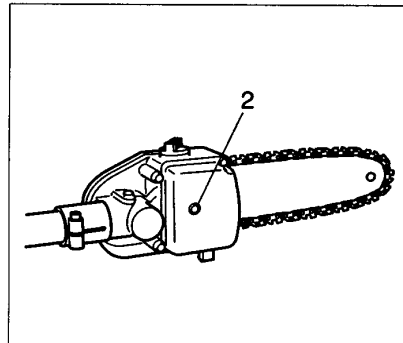
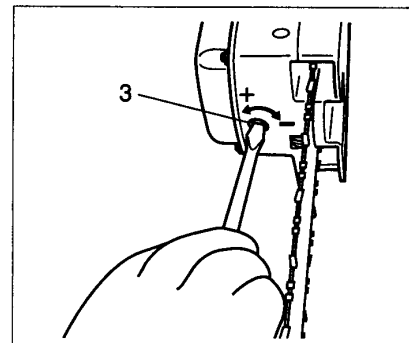

Fig. 2-3
Fig. 2-4
- Loosen the fixing screw (2) one turn. (Fig. 2-3)
- Turn the adjusting screw (3) clockwise to decrease the quantity and turn it counterclockwise to increase the quantity. (Fig. 2-4)
- Do not try to turn the screw (3) clockwise beyond 1 turn from its most counterclockwise position or the maximum quantity discharged position.
- After adjustments have been made, tighten fixing screw (2). (Fig. 2-3)